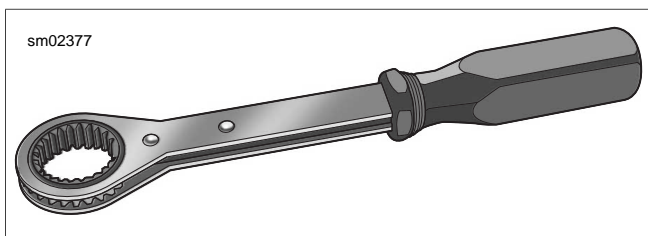

Figure 3-15. Crankshaft Rotating Wrench
- c. See Figure 3-15. **With engine mounted in engine stand** - Install CRANKSHAFT ROTATING WRENCH (Part No. HD-48283) on sprocket shaft and rotate in a counterclockwise direction until the base circle is found.